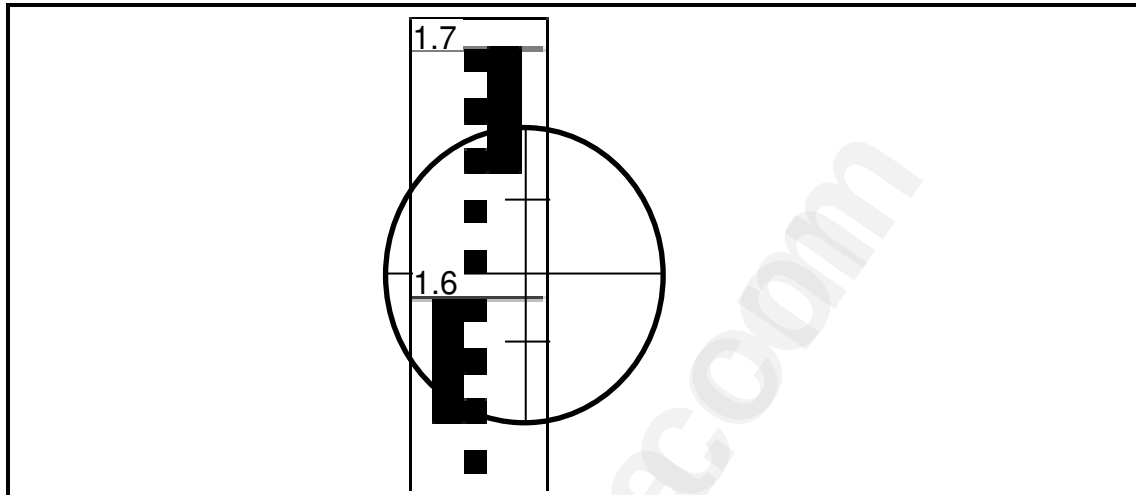

FIGURE 2.6
- 2.6 FIGURE 2.6 shows the dumpy level reading which is taken on the telescopic staff. Answer the following questions with regard to the reading.